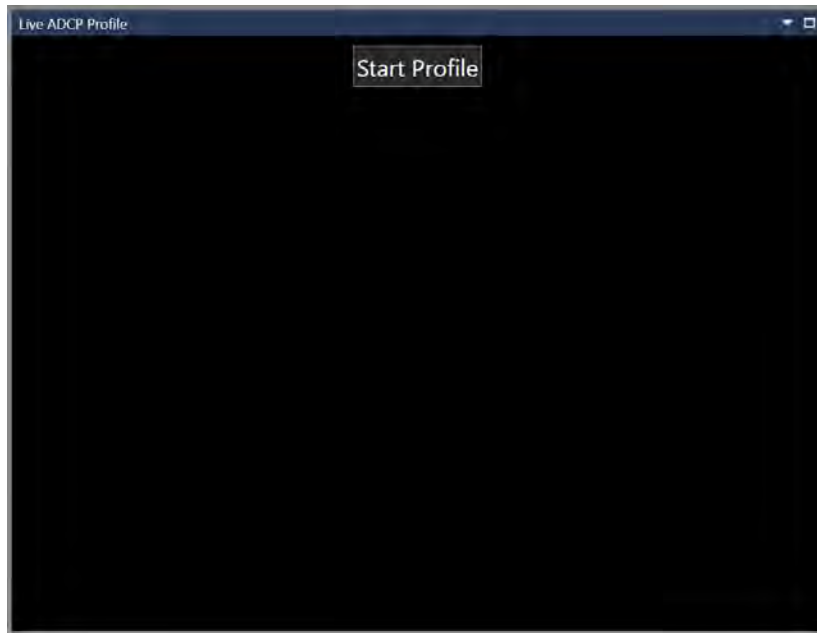

FIGURE 18-22 LIVE ADCP PROFILE – START
2. Click Ok, this opens the Live ADCP Profile window (see Figure 18-22)